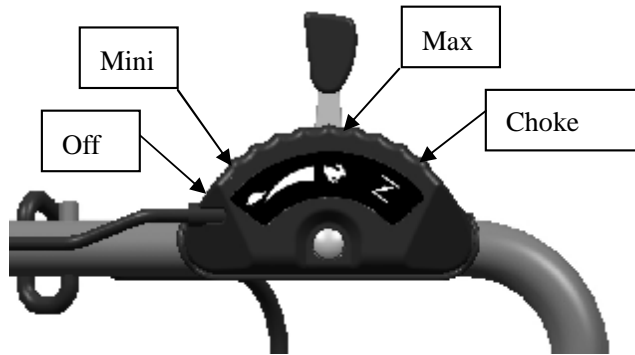

Figure8
- Method of confirming speed and adjustment of it (See Fig.8)